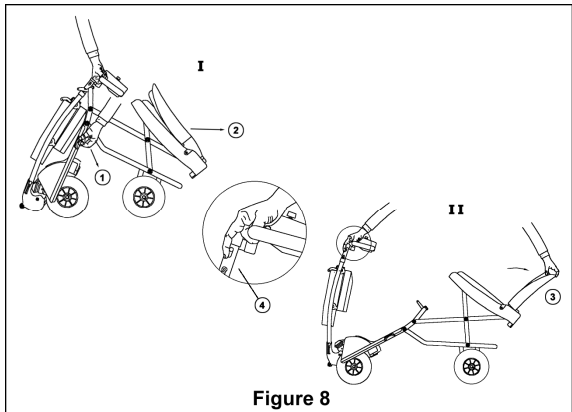

Figure 8
Step 1: Pull on the frame lock pin ring (Fig. 8/1) to release platform and rest front wheels on floor.
Step 2: Pull the seat backrest and lift it upright. (Fig. 8/2)
Step 3: Grasp top of seat backrest (Fig. 8/3) and pull column lock triggers (Fig. 8/4) to release column from platform. Pull outwards to unfold *EasyTravel* until platform and column lock into the operating position.